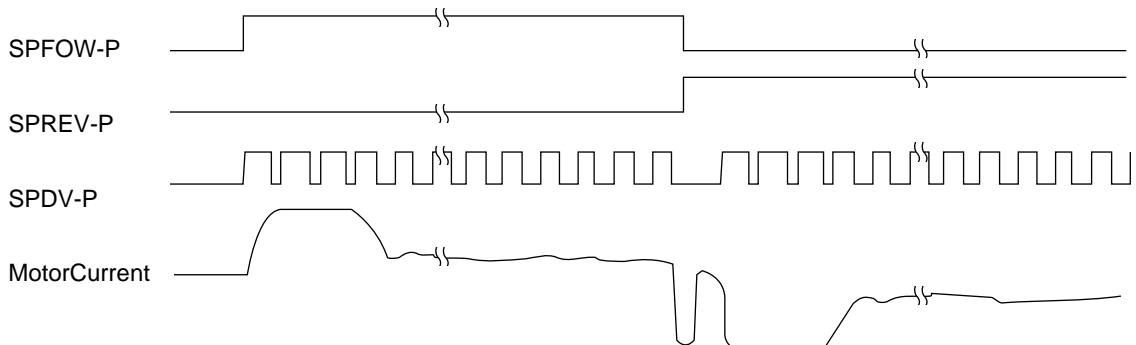

Figure 2.13
2.2.1 Printhead mechanism and operation (See Figure 2-13)